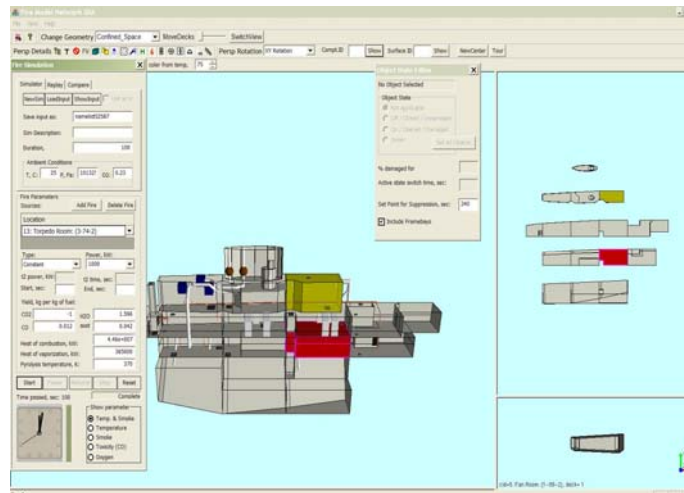

Figure 3-8 Simulation Visualization
Step 8: The program should start running and in a few seconds, you should see compartment 13 turn yellow, then red as simulation runs, and another compartment turn yellow as shown in Figure 3-8. This simulation should stop when the time reaches 100 seconds (the default time).